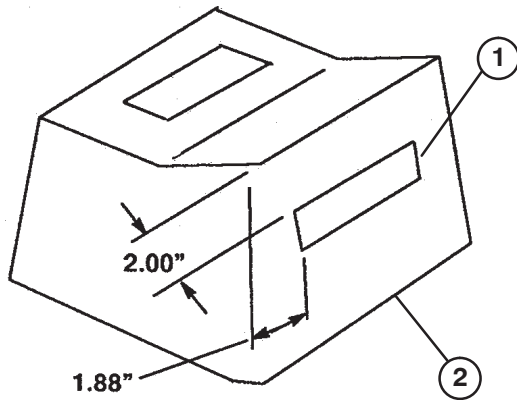

Figure 15
1. Using dimensions shown in figure 15, locate and mount a decal on side of tool box and side of control box.